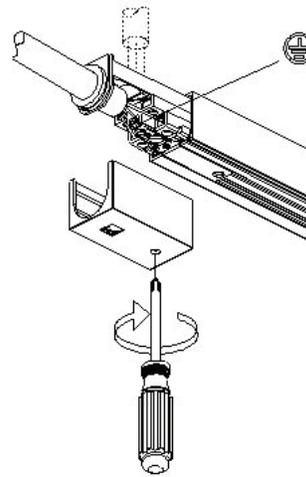

Fig 4b: Live End Connector Feed Options
3. Bring feed through either the knock-out on the bottom of the connector or on the side of the connector (Fig 4b).